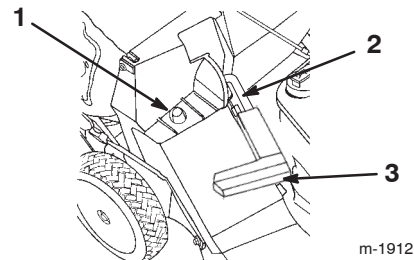

Figure 18
2. Ensure that the discharge door handle is fully forward and that the pin is engaged in the catch (Fig. 18).
3. Slide the hole in the bag frame onto the retaining post on the discharge tunnel (Fig. 18).
2. Raise the discharge door handle and move it forward to engage the pin with the catch (Fig. 18).